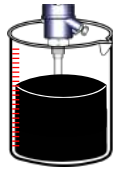

Figure 15: Test Tank
- Prepare a narrow transparent test tank & fill the application media as shown in the following Figure 15.